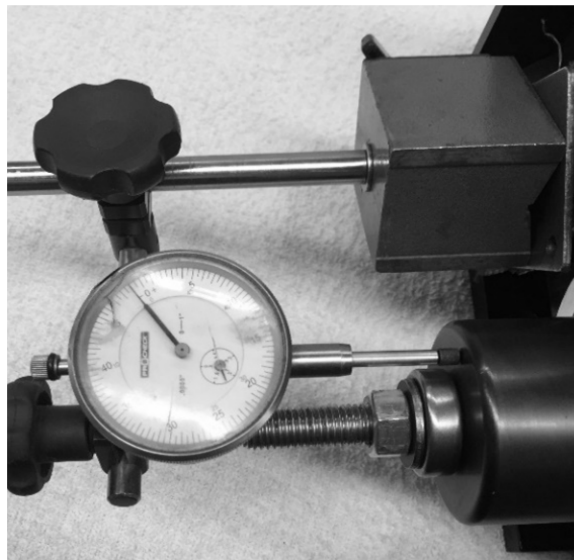

FIGURE 21 | CHECKING AXIAL END PLAY IN THE MAIN DRIVE GEAR TAPERED ROLLER BEARING
6. Do not remove the installation tool yet; leave everything tight. Measure the amount of endplay in the main drive gear assembly using a dial indicator with .0005" increments as shown in figure 21. **Total axial end play (pulling / pushing on the gear) must be between .0005" and .002"**. It is extremely important that your bearing end play is within this range, as anything too tight or too loose may lead to transmission failure.